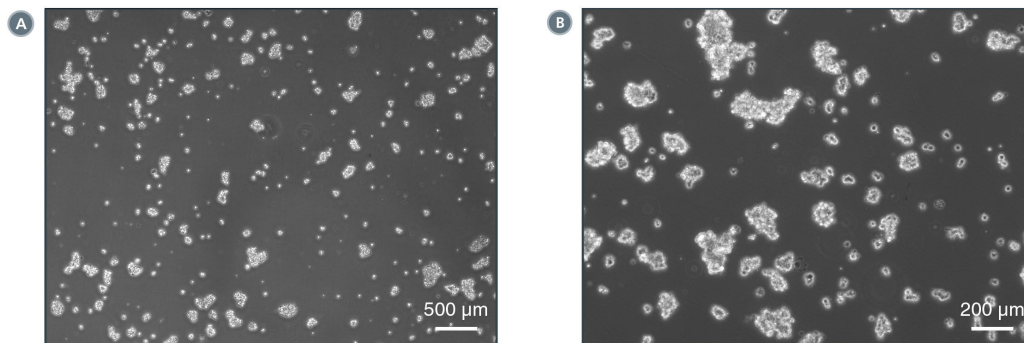

Figure 1. Examples of ideal cell aggregates (mean size of approximately 50 - 200 μm) obtained after step 8 of the protocol.
NOTE: Optimal dissociation time may vary depending on the cell line used; when passaging a cell line with ReLeSR™ for the first time, the optimal dissociation time should be determined. For more information, see Figure 1 and Notes and Tips.
8. Transfer the detached cell aggregates to a 15 mL tube (e.g. Catalog #38009) using a 5 mL serological pipette (e.g. Catalog #38003). Cell aggregates should be appropriately sized for plating (mean aggregate size of approximately 50 - 200 μm ; see Figure 1 and Notes and Tips).
The ideal mean cell aggregate size obtained after step 8 of the protocol is approximately 50 - 200 μm (see Figure 1). The ReLeSR™ passaging protocol may need to be optimized when using different cell lines. The following are some troubleshooting suggestions:
- Pipette the cell aggregate mixture up and down until the ideal aggregate size is obtained (see Figure 1 for example). Avoid generating a single-cell suspension.